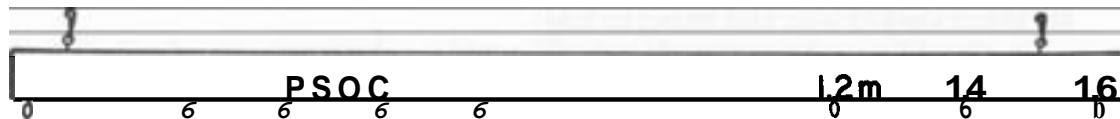

Figure 1. A typical crossbar showing locations of screweyes.
4. Four screweyes facing perpendicular to the bar for hanging poles: one at one end and three at the other end with gate widths in meters clearly marked on the bar above them (1.2, 1.4, 1.6m are most useful), Figure 1.